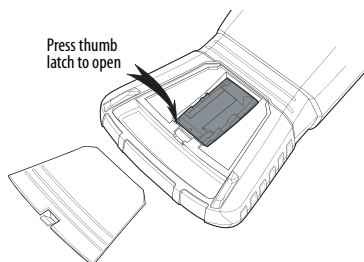

Figure 3
1. Press the thumb latch on the back of the printer to remove battery compartment cover. See Figure 3.
2. Insert the battery pack into the battery compartment. See Figure 3.